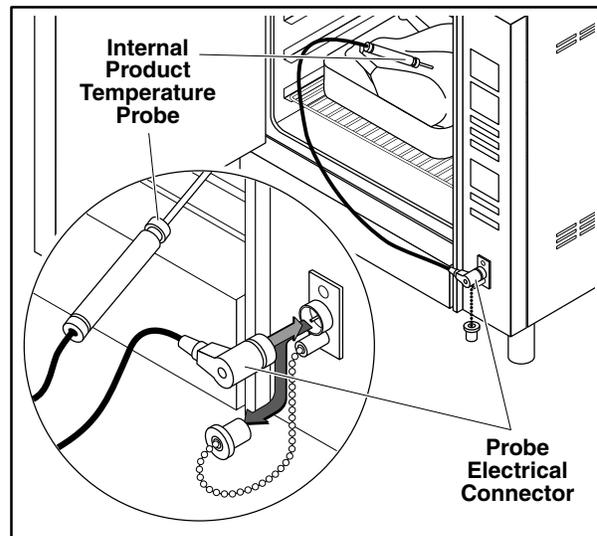

Figure 28: Cooking with the Internal Product Temperature Probe
3. Remove the protective cap and insert the probe electrical connector into the probe connection on the oven as shown below (Figure 28).